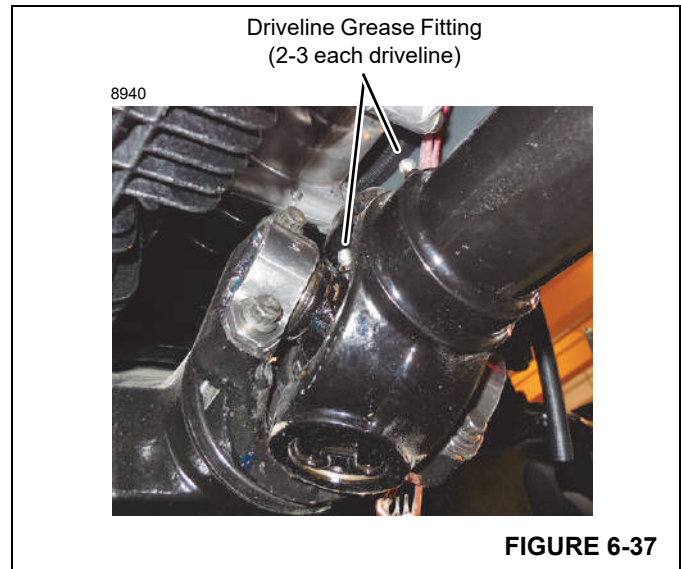

FIGURE 6-37
2. Clean the grease fittings (Figure 6-37).